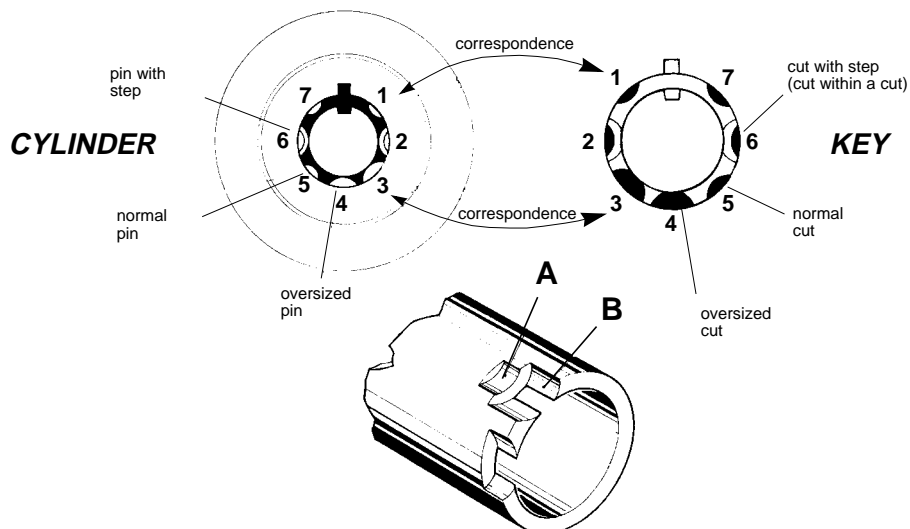

Fig. 14
The pin of a cylinder are divided into normal, oversized (MASTER), and with steps; as shown on fig. 14, to distinguish the different cuts, we use the indicated denomination.
- 3) proceed in duplicating the cuts "A" (fig. 14).